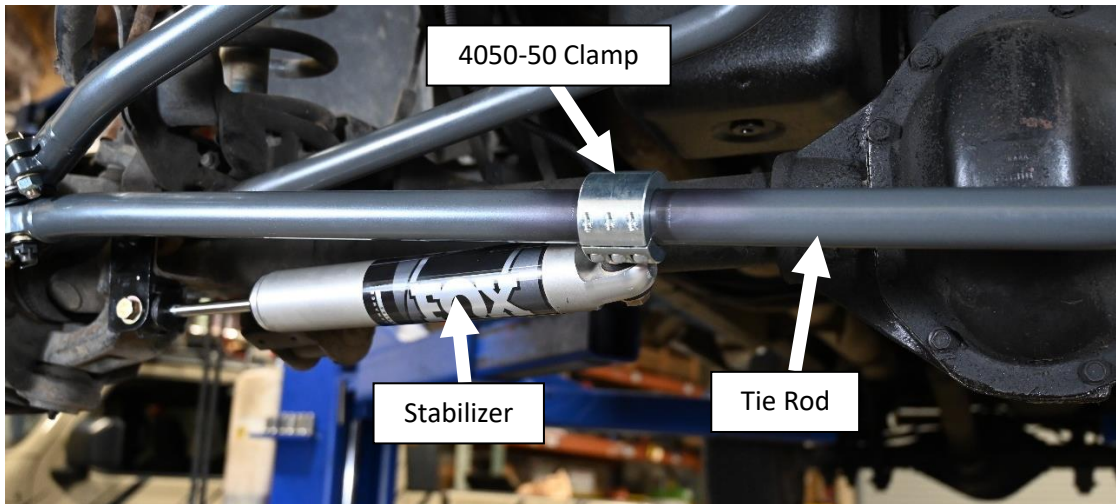

Figure 20. Steering Stabilizer Shown Mounted to 4050-50 Clamp
30. Attach the free end of the stabilizer to the 4050-50 clamp as shown. Install the 1/2-20 UNF x 2" long bolt and two washers. Do not fully tighten bolt at this time. See **Figure 20**.